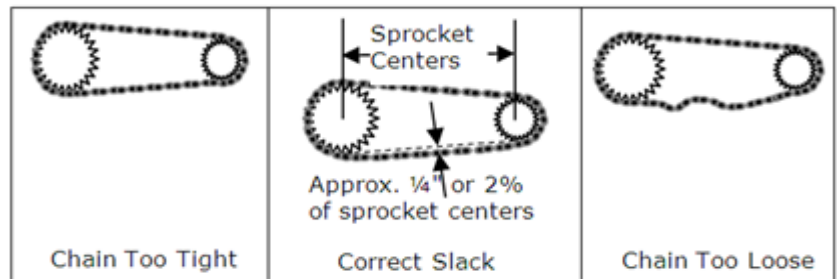

FIGURE 2.2 Drive Chain Sag
- Chain should have sag on the slack side (see *Figure 2.2*). Measure the sag half way between the two sprockets.